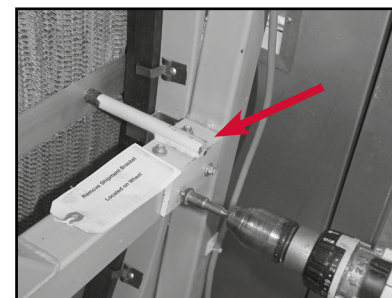

FIGURE 16. Shipping restraint for flat rim wheel.
- 2) Remove shipping restraint located in the supply air side of the wheel near the drive motor. Remove all bolts and discard. The shipping restraint prevents the rotor from turning during shipment [See **FIGURES 16** and **17**].